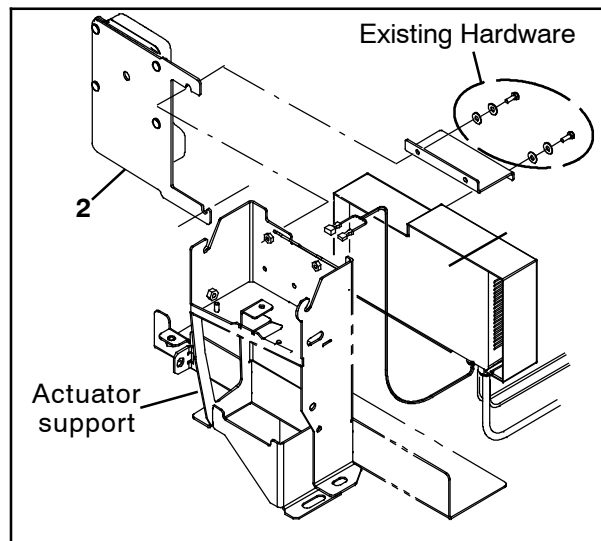

Fig. 20
For models equipped with on-board charger, see Figure 20.
Models equipped with on-board charger: Use existing hardware to install the telemetry control box / module bracket (2) onto the actuator support. (Fig. 20)